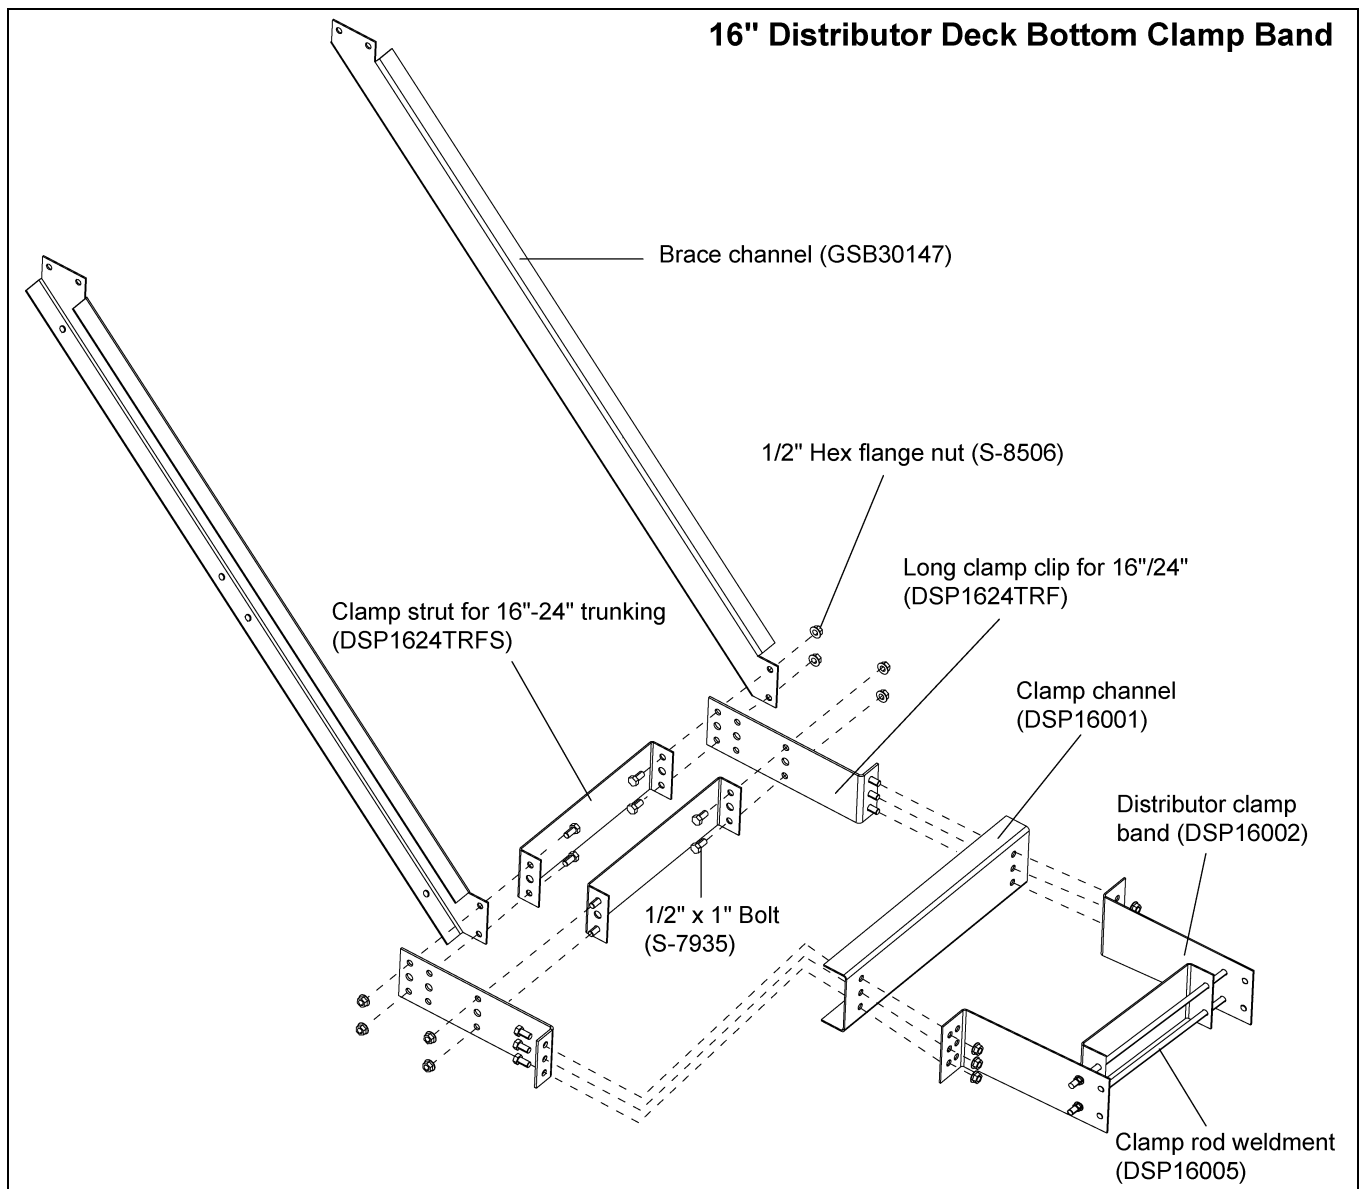

Figure 10B
1. Slide rods of clamp rod weldment into inside set of holes of clamp bands for 16" assembly. Fasten together using four (4) 1/2" hex flange nuts.
2. Line up the holes on one of the clamp struts with the set of holes closest to the bend on both of the 16"-24" long clamp clips and fasten all three (3) together using four (4) 1/2" x 1" bolt and nuts. Tighten only finger tight. Next orient the brace channels so the bends face outwards and line up the brace channel holes with the holes located at the end of the long clamp clips and the remaining clamp strut. Fasten all five (5) parts together using four (4) 1/2" x 1" bolt and nuts. Tighten finger tight. This will make up the brace channel assembly.
3. Assemble the clamp rod weldment, clamp channel and brace channel assembly at same time around the trunking. Place clamp rod weldment assembly around the trunking leg and line up holes on 16"-24" long clips and clamp channel with the **outside set of holes** on the clamp rod weldment. Fasten all three (3) together using six (6) 1/2" x 1" bolts and nuts. (See Figure 10B.)